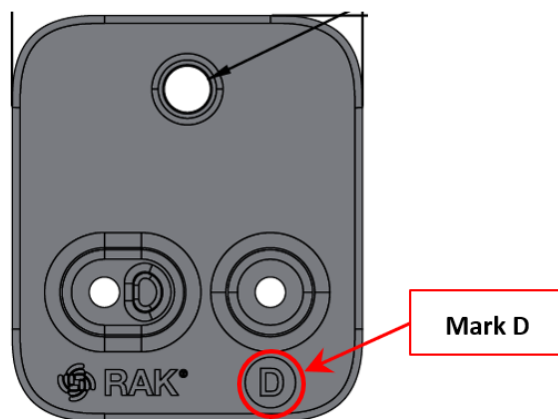

Figure 16: Mount accessory marked with letter D
1. For wall mount, use two (2) pieces of mount accessories with an indicator marked with the letter **D**, as shown in Figure 16.